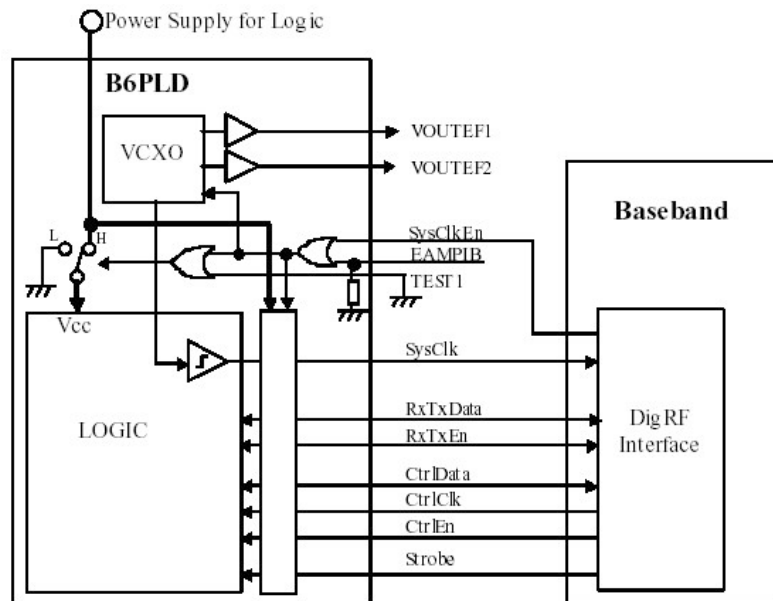

Fig. 1-1 Digital Interface Block Diagram
The digital interface consists of two separate interface connections; (1) the control interface, (2) the data interface, and a system clock on/off control signal and a precise timing signal. These are realized by eight signal lines in B6PLD(Look at Fig1.1 above)